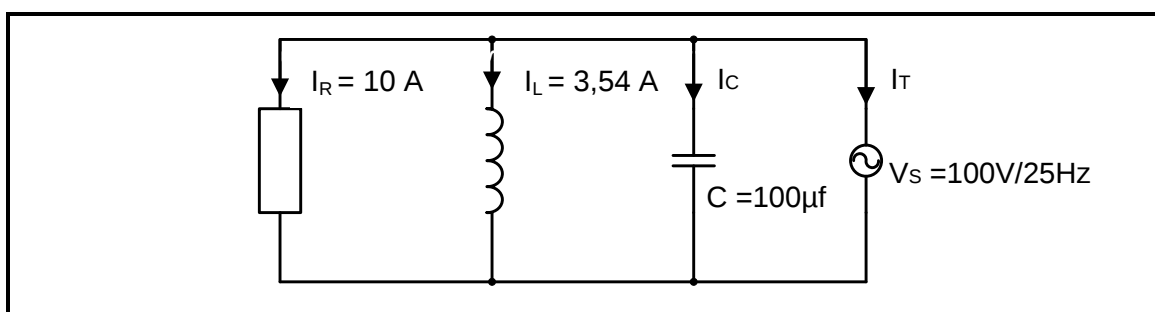

FIGURE 3.8
- 3.8 Refer to FIGURE 3.8 below and answer the questions that follow.